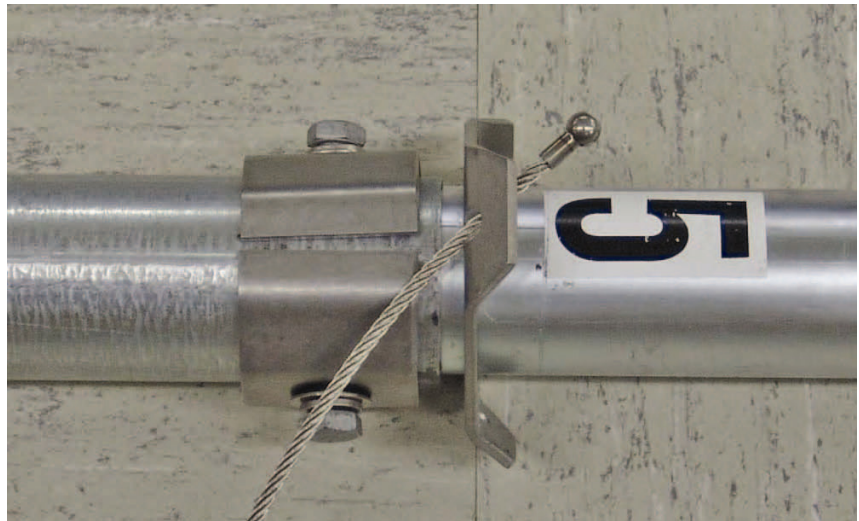

FIGURE 2.2-16. Mast Section 5 and Guy Ring/Collar Assembly
Step 15: Place guy cable ball ends into guy ring and then slide ring down mast to collar (see Figure 2.2-16).